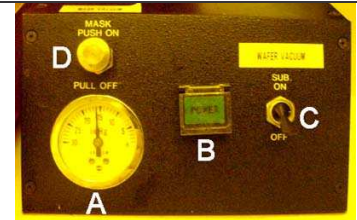

Fig. 1. Vacuum Controls
1. Mask aligner vacuum gauge (A, Fig 1) at least 15 psi. **Note:** Vacuum pump power is provided by power strip near hot plate.
2. Mask vacuum control knob (D, Fig 1) pulled OUT (OFF).
3. Wafer vacuum control (C, Fig 1) switched OFF.
4. POWER button (B, Fig 1) ON (button depressed).
- 3b. For wafers < 3" diameter, center wafer, face-up, on the wafer platform (W), avoiding the alignment clips.
4. Switch wafer vacuum ON (C, Fig. 1)
5. Rotate VERT alignment knob clockwise to lower wafer chuck (W) well-below the mask platform (M) level.
- 6a. For glass masks, place mask face down on mask platform (M) between the four alignment pins.
- Place a clean 5" glass blank on the mask platform (M) between the four alignment pins.
7. Depress mask vacuum knob (D, Fig. 1) to securing mask to platform.
3. Switch the wafer vacuum **OFF** (**C**, Fig 1).
6. Press mask vacuum knob (**D**, Fig 1).